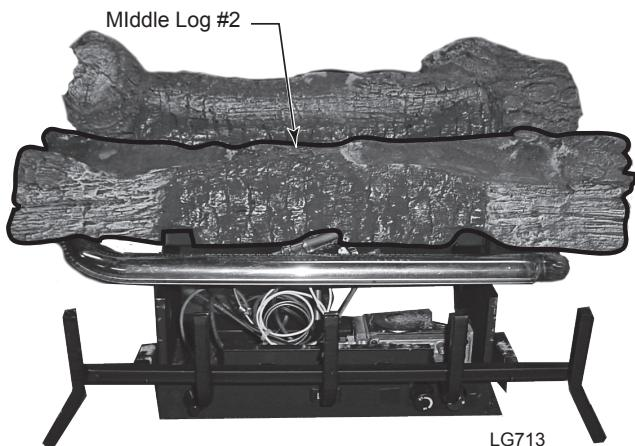

Figure 25 -
2. Place Middle Log (#2) on middle support. *Figure 25*